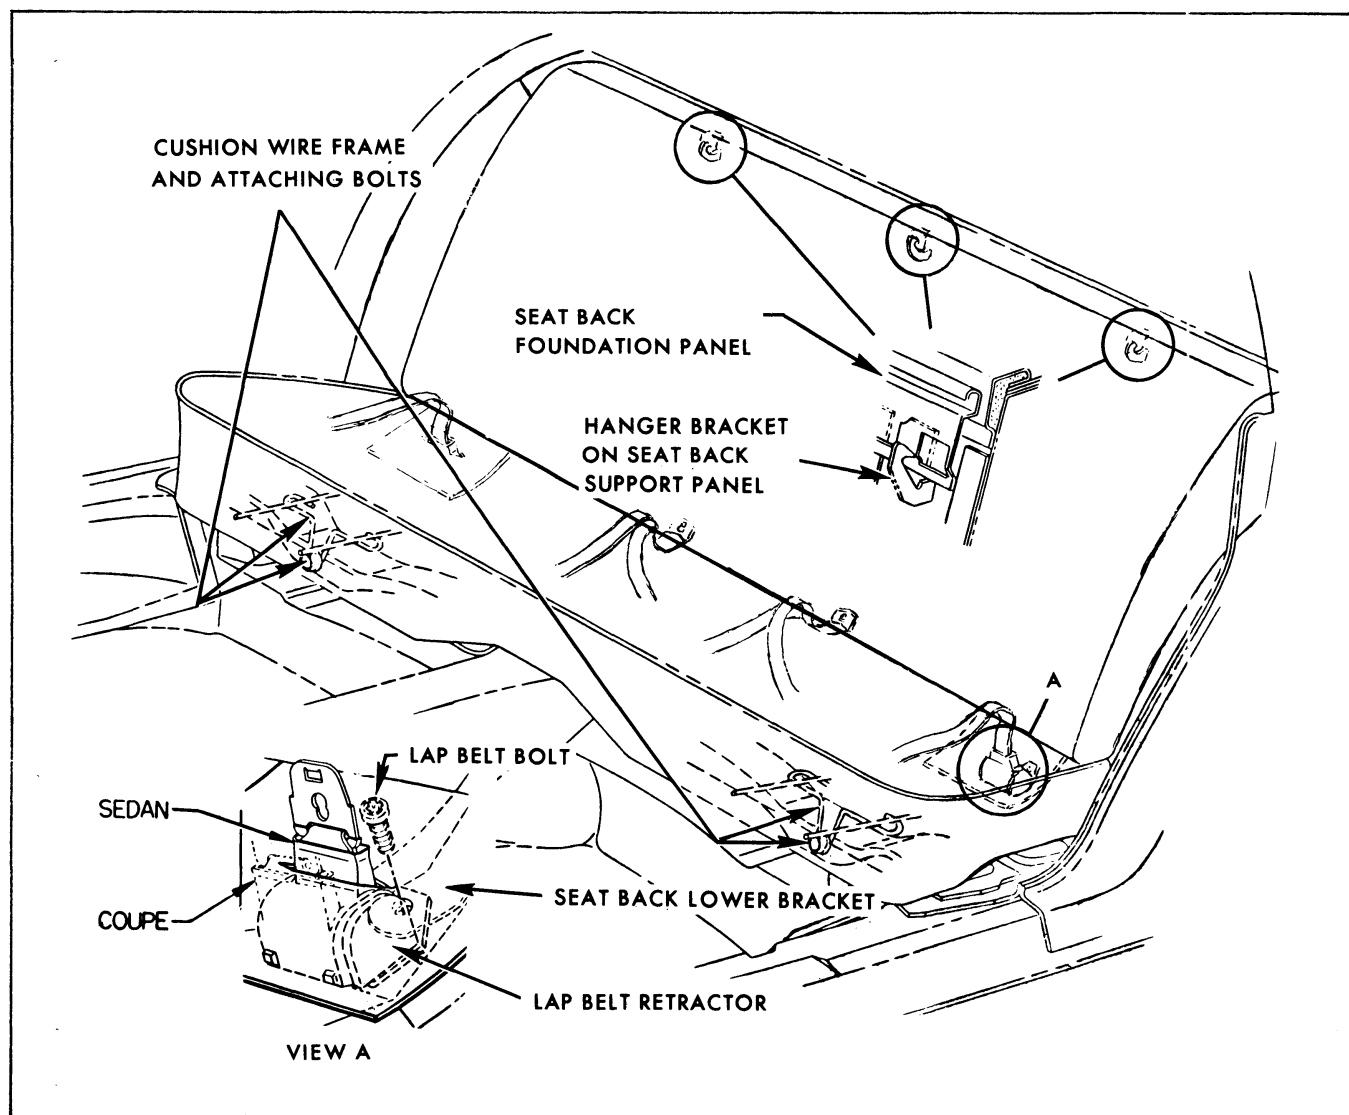

Fig. 9-56-Rear Seat Cushion and Back Installation - All "A" Body Except Station Wagons
1. Under front of rear seat cushion, remove two bolts securing rear cushion wire frame to floor pan (Fig. 9-56).